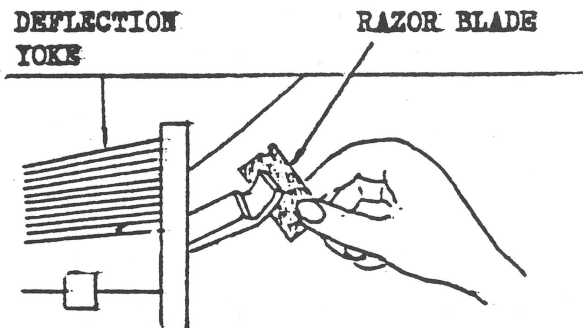

Fig. 2 RUBBER WEDGE REMOVAL
-Remove all of the three black rubber wedges from the tube with a razor blade. (See Fig. 2)